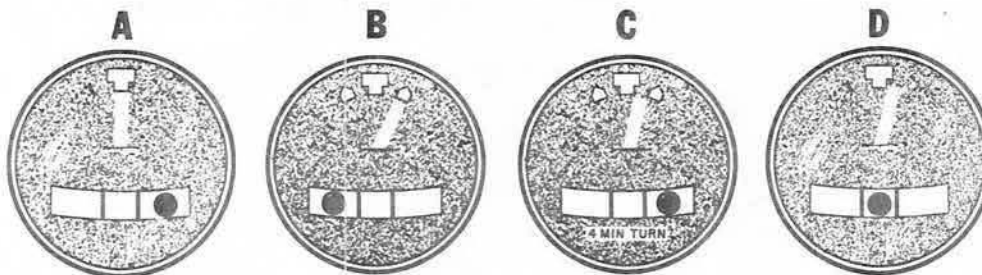

Figure 1
Misinterpretation of the turn and slip indicator is caused by two major factors: (1) The marking and legend on the face of the instrument, and (2) misinterpretation of the "ball" (or slip/skid indicator). In general appearance, turn and slip instruments can be divided into two types: one having a center index only (see illustrations A and D of Figure 1), and the other having a center index and a two-needle-width deflection mark (doghouse) on either side (see illustrations B and C). A one-needle-width deflection on instruments having only the center index indicates a standard rate turn ( $3^\circ$  per second). Instruments with doghouses may have different legends, e. g. "2-Min. Turn," "4-Min. Turn," "Turn and Bank;" regardless of the legend, if the instruments are properly calibrated, a one-needle-width deflection indicates a turn of  $1.5^\circ$  per second. A standard rate turn ( $3^\circ$  per second) is indicated when the needle is aligned with the doghouse.
Assuming that the instruments in Figure 1 are properly calibrated and the airplane is properly trimmed for the speed and power setting, WHAT IS THE "RATE OF TURN" INDICATED BY EACH OF THE ILLUSTRATIONS, AND WHAT DOES THE BALL INDICATE?